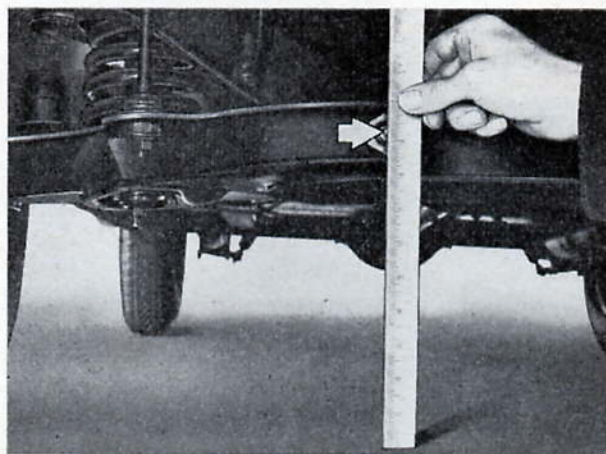

Fig. K.2. Checking the front end height
4. Measure the vertical height from the floor to the centre of each suspension lower fulcrum shaft (Fig. K.2). The heights should be within the specified limits. No adjustment is possible and where necessary, a new spring or springs must be installed.